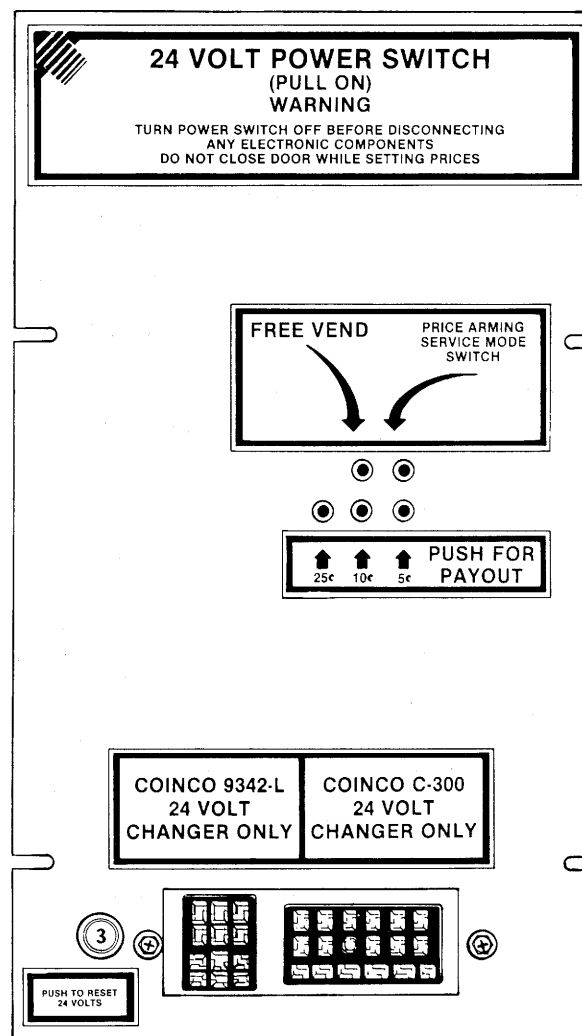

Figure 9
- A. Enter the Service Mode by pulling the Power Switch to its "ON" position as described on Page 6 and then depress the Price Arming/Service Switch (See Figure 9, Page 4). The display will show only a decimal point.
- A. Enter the Service Mode by pulling the Power Switch to its on "ON" position as described on Page 6 and then depress the Price Arming Switch (See Figure 9, Page 4).
- B. Depress "FREE VEND" Switch (See Figure 9, Page 4), three (3) flashing bars will appear in the display.
Before any Service function is executed, the Controller must be placed in the Service Mode. This is accomplished by first placing the Power Switch, located above the Control Panel (See Figure 9), to the "ON" position. Next, depress the "PRICE ARMING/SERVICE SWITCH" located on the Control Panel. The Controller will remain in the Service Mode if any selection button or key is depressed at least once every 25 seconds. If more than 25 seconds elapses without a key or button being depressed, the Controller will return to the Vend Mode.